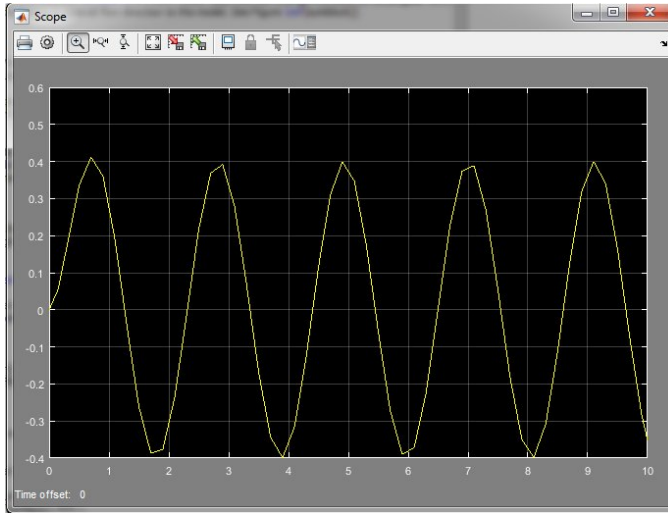
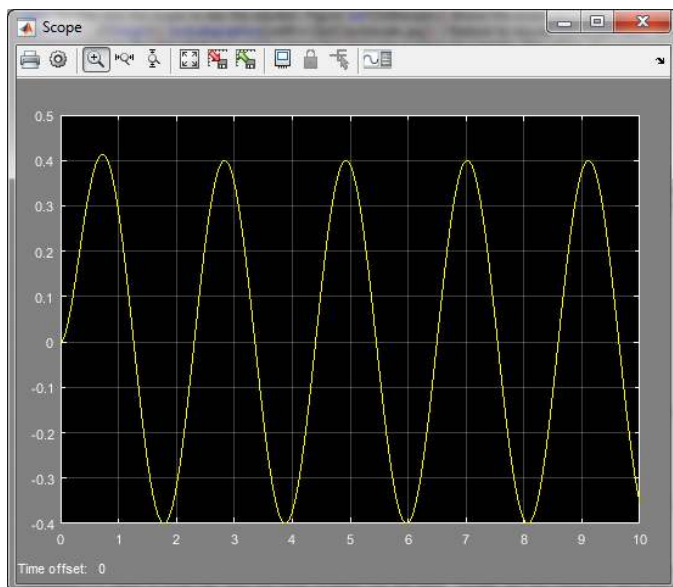
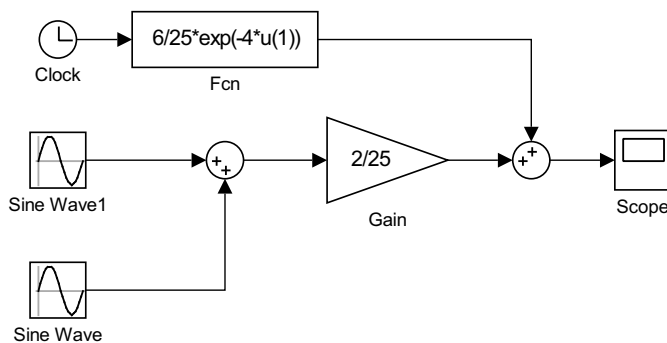

Figure 1.13: Scope plot of the solution of  $\frac{dx}{dt} = 2 \sin 3t - 4x$ ,  $x(0) = 0$ , with **Refine Factor**= 1.
Figure 1.16: Scope plot of the solution of  $\frac{dx}{dt} = 2 \sin 3t - 4x$ ,  $x(0) = 0$ , with Refine Factor= 10.
Figure 1.24: Model for plotting the exact solution (1.8) of the initial value problem (1.6).
- Double-click the **Scope** to see the solution. Figure 1.13 shows the **Scope** plot after using the autoscale (  ) feature to rescale the scope view. A little effort is needed to change the plot attributes and to import the plots into working documents. This will be discussed in Section 1.4.
- Also, one can make further changes to the system by checking the **Configuration Parameters** under the Simulation menu item. See Figures 1.14-1.15. In particular, changing the **Refine Factor** can lead to smoother solutions. The solution shown in Figure 1.13 had a setting of 1 and that in Figure 1.16 is the result of setting the **Refine Factor** to 10.
The solution can be found using Simulink. The model for this exact solution is shown in Figure 1.24. The plot on the scope matches the solution we obtained earlier as seen in Figure 1.13.